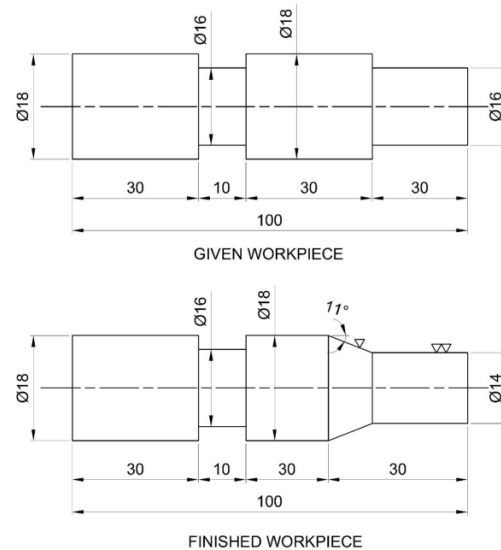

Figure 5.2. Step turning with taper operation
1. Preparation of Mild Steel (MS) material for step turning with taper operation as shown in the Figure 5.2.